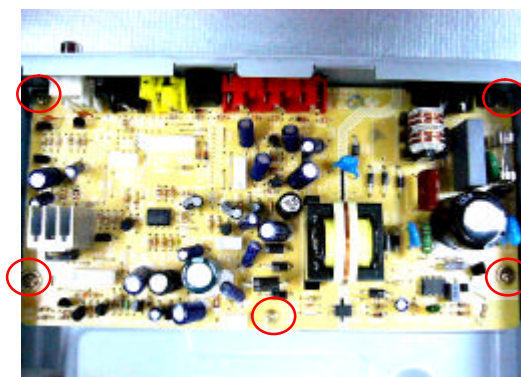
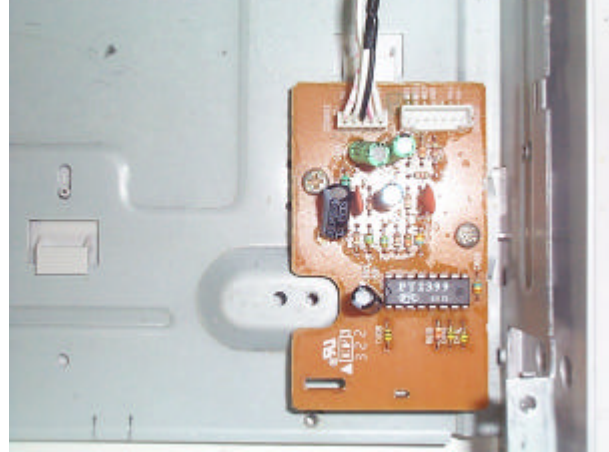

Figure 7
Figure 8
Step7: Remove the power board. First remove the 5 screws that added ellipses (Figure 7), secondly remove the 8 screws inside the big ellipse, (Figure 8)